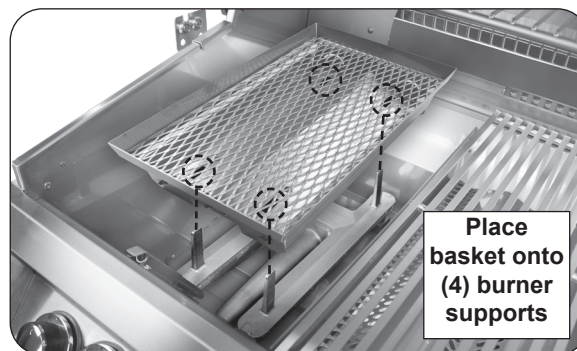
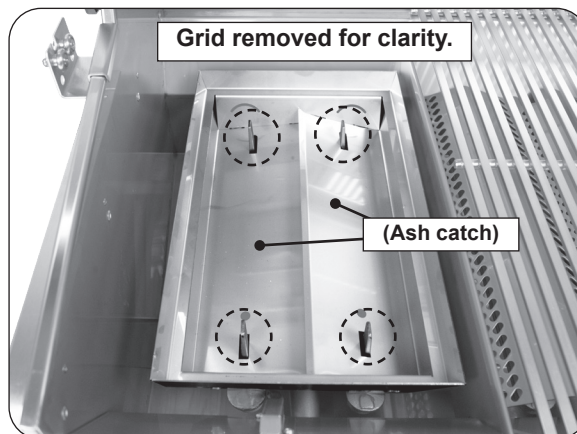

Fig. 43-3 Place basket onto burner
Fig. 43-4 Basket placement detail
3. Place basket onto burner in place of flavor grid. Align basket cutouts over burner supports (see Fig. 43-3 and Fig. 43-4).